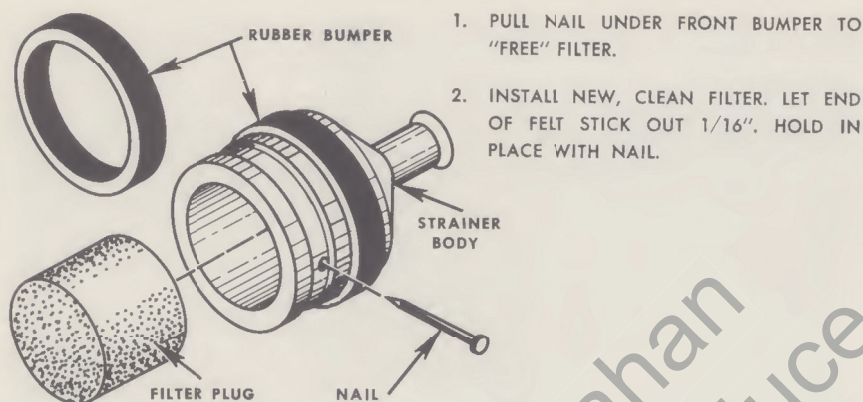

Figure 15—Changing Fuel Filter in Fuel Tank
### (4) CHANGING FUEL TANK FILTER (See figure 15)
- (b) Remove dirty filter and install clean filter as shown in figure 15.